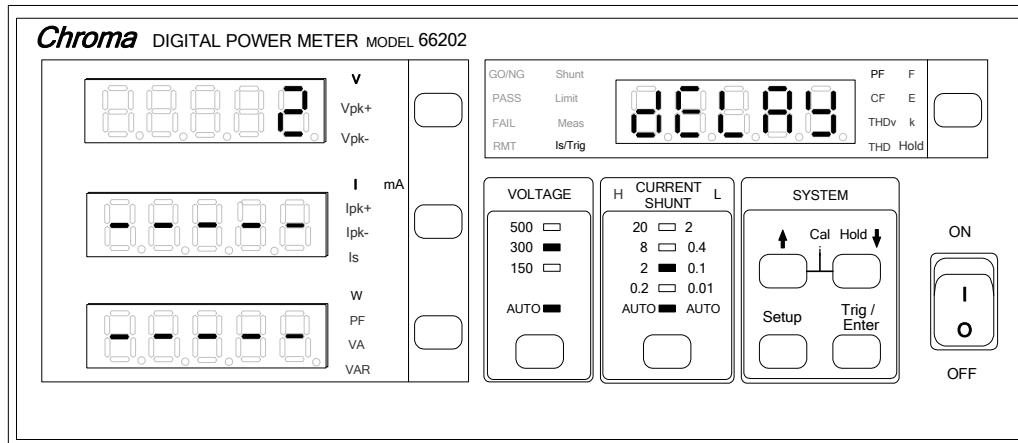

Figure 4-33 Setting Is/Trig
1. Press **Setup** to select Is/Trig and the indicator of Is/Trig is on. Figure 4-33 shows the setting of Is/Trig.